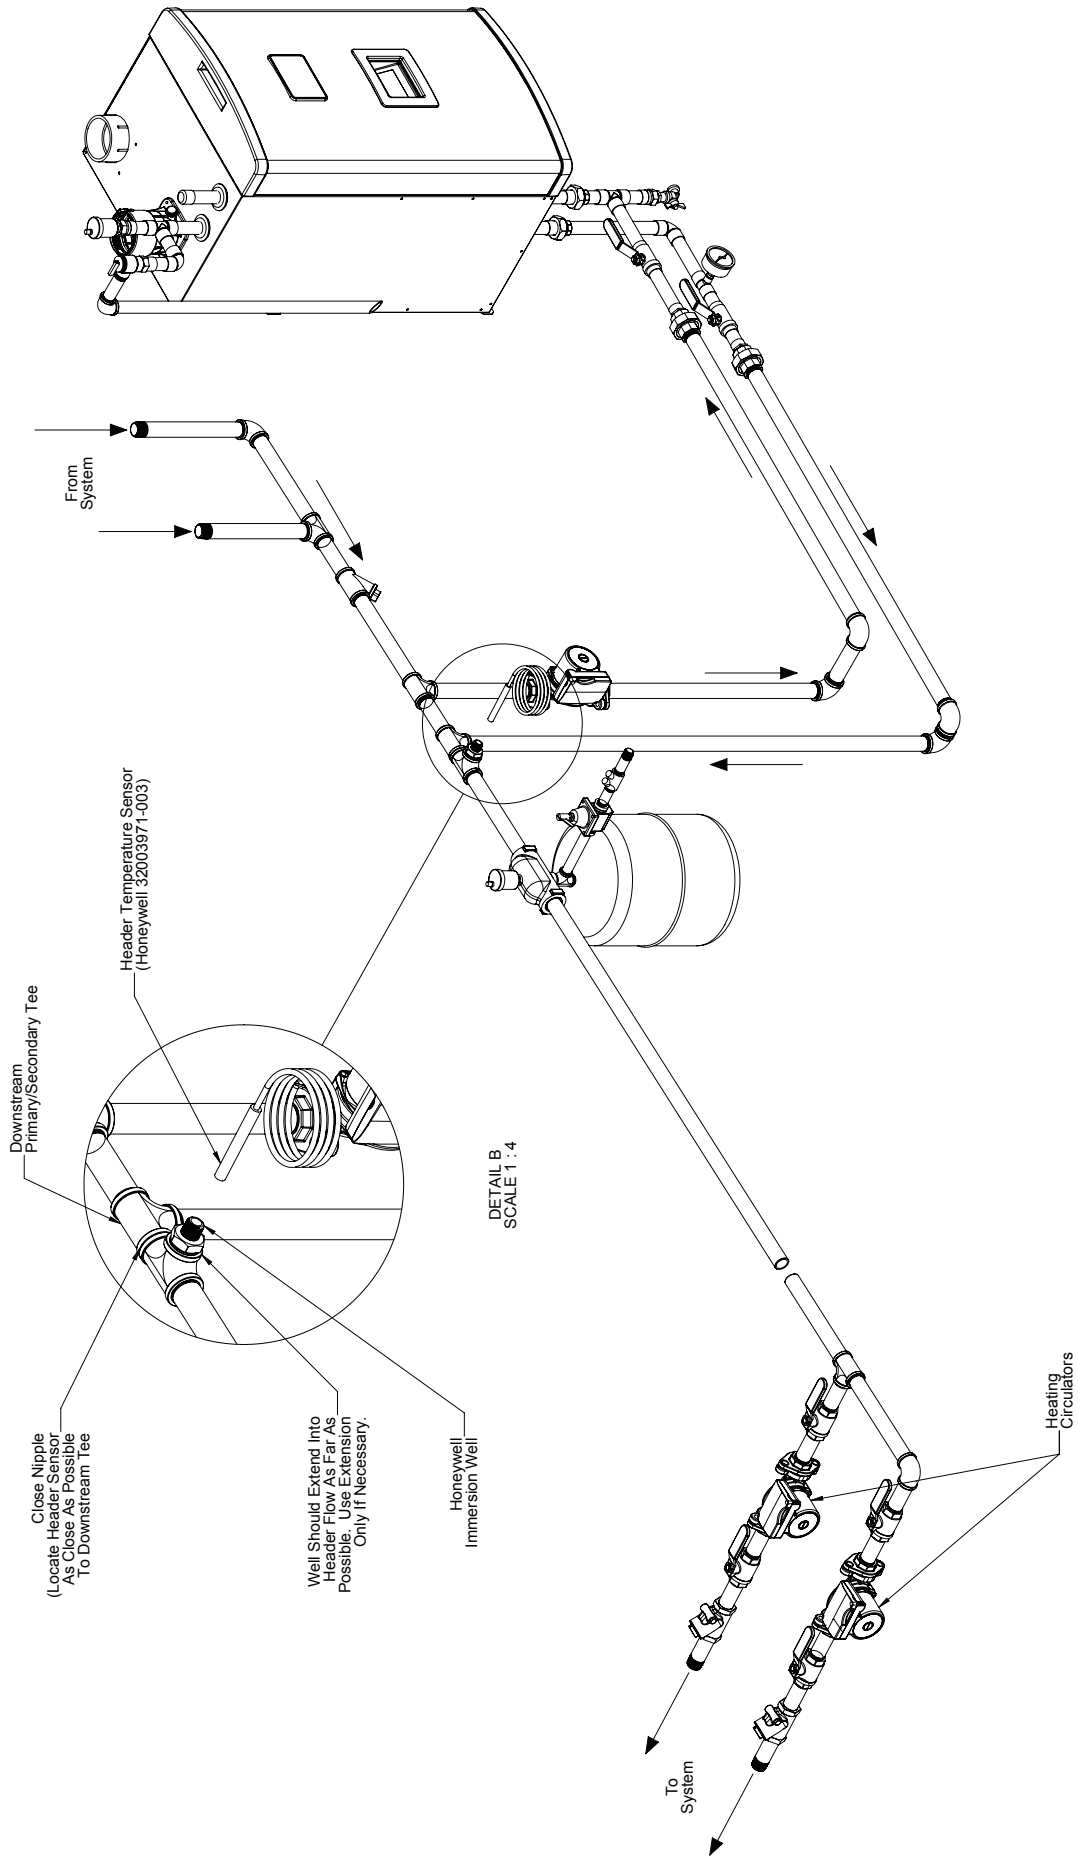

Figure 10.4: Proper Installation of Header Sensor
- e) Header Sensor - When this sensor is installed and enabled, the boiler will attempt to maintain the target water temperature in the header rather than in the supply. Where the system flow rate varies widely, the use of a header sensor allows the temperature of the water being sent to the radiation to be more accurately controlled. Use sensor P/N 103104-01 (Honeywell 32003971-003) with 1/2" NPT immersion well, P/N 80160456. Installation of this sensor in a well, as opposed to on the surface of the header, is highly recommended. Alternatively use 1/2" NPT direct immersion sensor, P/N 101935-01. Locate this sensor immediately downstream of the second primary-secondary Tee (Figure 10.4). The sensor wiring should be routed away from sources of electrical noise. Where it is impossible to avoid such noise sources, wire the sensor using a 2 conductor, UL Type CM, AWM Style 2092, 300Volt 60°C shielded cable. Connect one end of the shielding on this cable to ground. See Section XII “Operation” for information on enabling the header sensor.